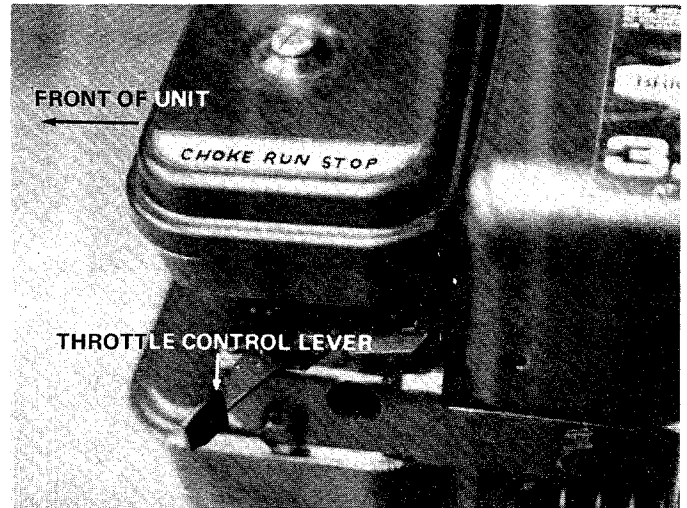

FIGURE 12.
1. Place throttle control lever (on engine) in RUN position, towards the front of splitter. See figure 12.